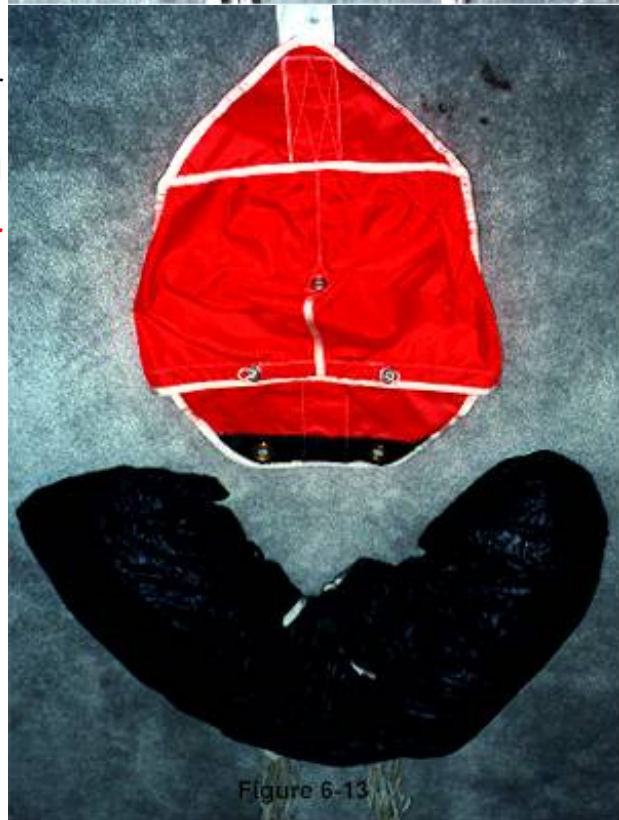

Figure 6-13
Step 11 Form the Molar "Ears" to be inserted in the deployment bag as shown in *Figure 6-13*. Carefully stuff the reserve canopy into the molar bag.